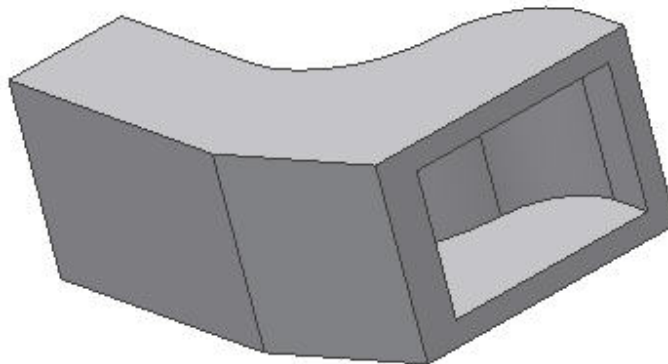

Figure 10
10. Click on the **OK** button and the shelled part should look like Figure 10.